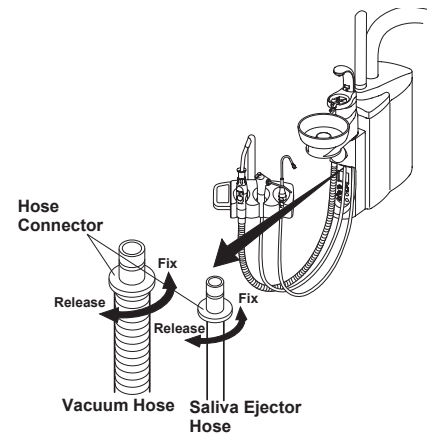

Fig.5-4 Vacuum and Saliva Ejector Hose
- 1-2. Vacuum hose and saliva ejector hose are detachable from the cuspidor unit.(Fig.5-4)